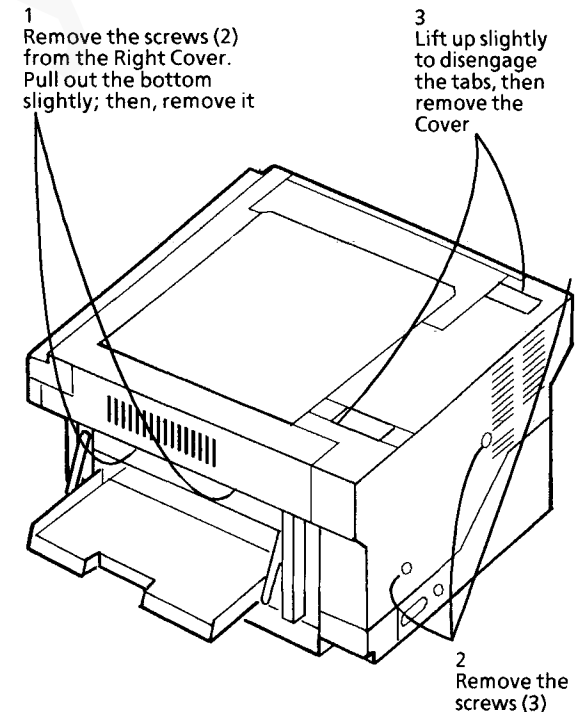

Figure 1. Removing the Upper Rear Cover
6. Remove the Upper Rear Cover (Figure 1).